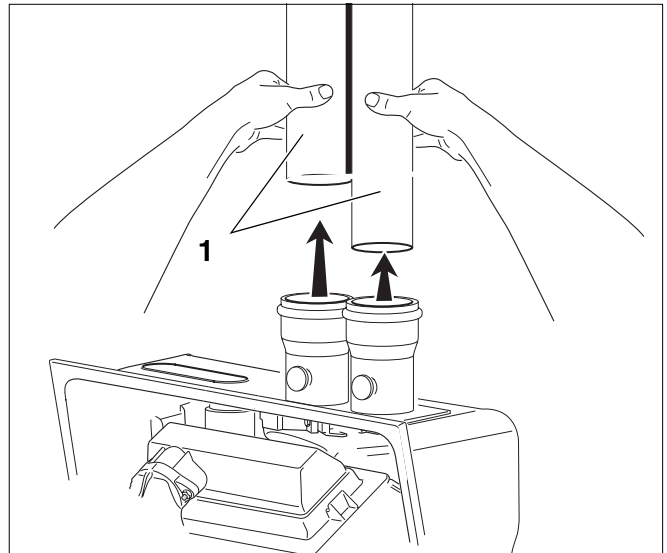

Fig. 133 Loosening the combustion air supply and flue gas exhaust connections
- Pull the combustion air supply and flue gas exhaust connections on top of the appliance upwards to remove them (see fig. 133, pos. 1).